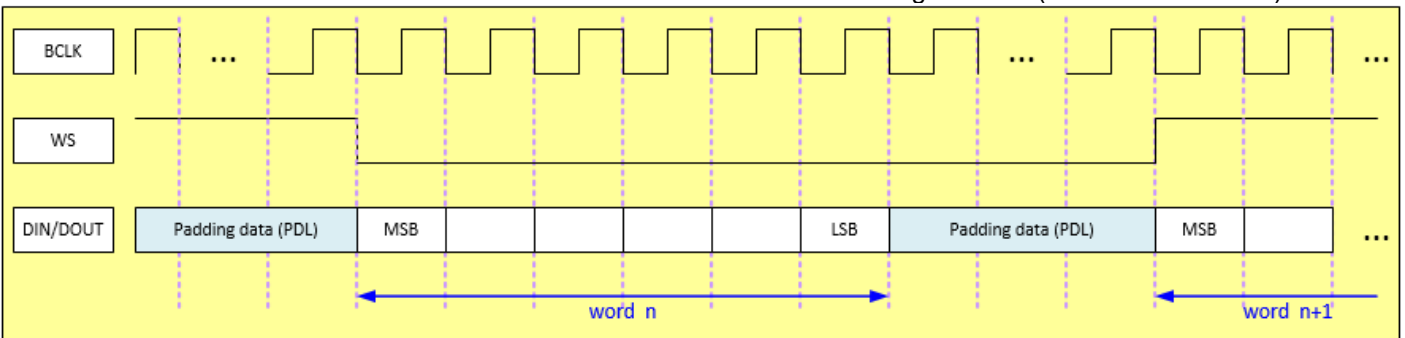

Figure 13-9. Possible Variation of I2S Frame Format (Left-justified)
- Figure 13-9 shows another variation of the I2S frame format. In this case, the width of the WS. is also larger than the serial data bits; however, the valid data bit is left-justified to the whole frame. The extra padding data bits are inserted after the valid data bits. The number of the padding data bits is specified in PDL in control register 1, and the first bit of the serial data is valid at the first serial clock after the change of WS. (FSDIST is set to '0').